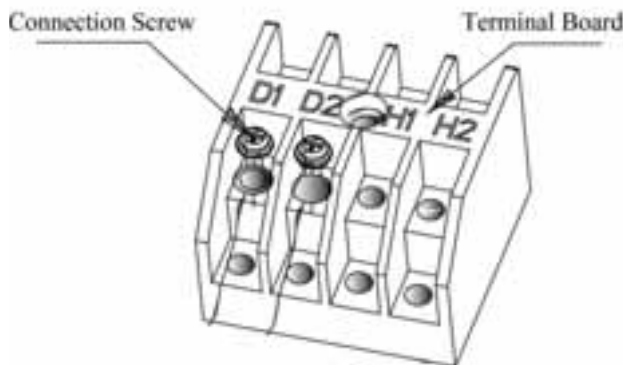

Fig. 5.5
- (1) Open electric box cover of indoor unit.
- (2) Lead the communication wire through rubber ring.
- (3) Connect communication wire to wiring board OD (D1, D2) of outdoor unit of mode exchanger.
- (4) Connect communication wire lead from D1 and D2 terminal of 4-bit wiring board of indoor unit to wiring board ID1 (1D1, 1D2) of indoor unit of mode exchanger; ID2 (2D1, 2D2……ID-n (nD1, nD2), $n \leq 8$, As shown in Fig. 5.5